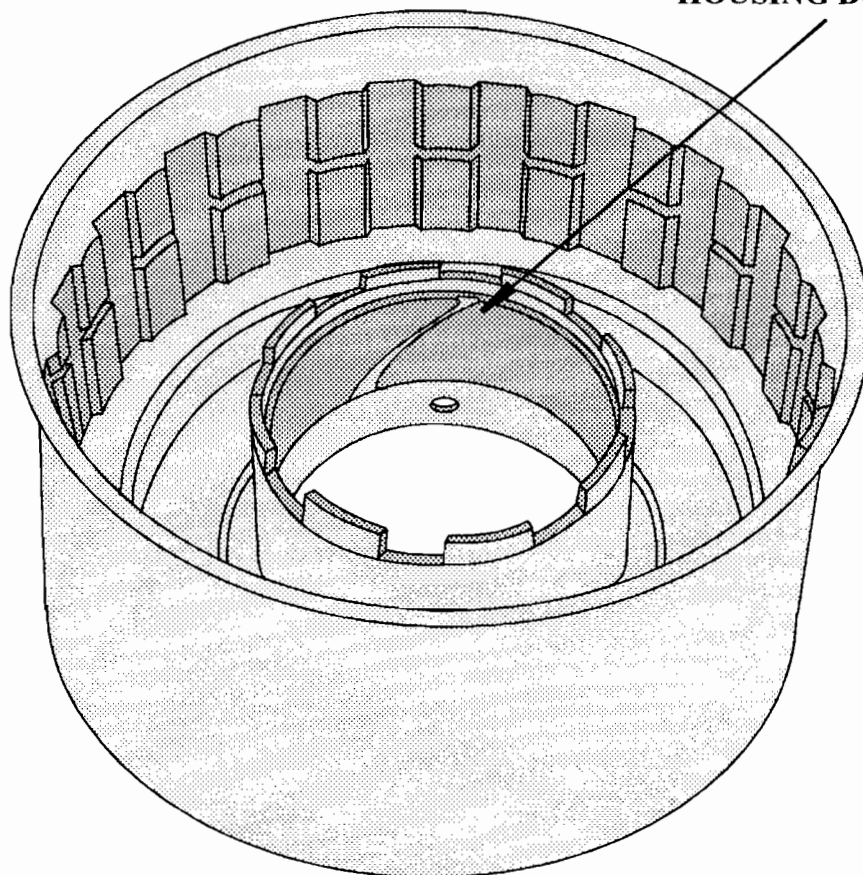

Figure 3
5. Overrun clutch housing bushing for wear and/or damage (See Figure 3).